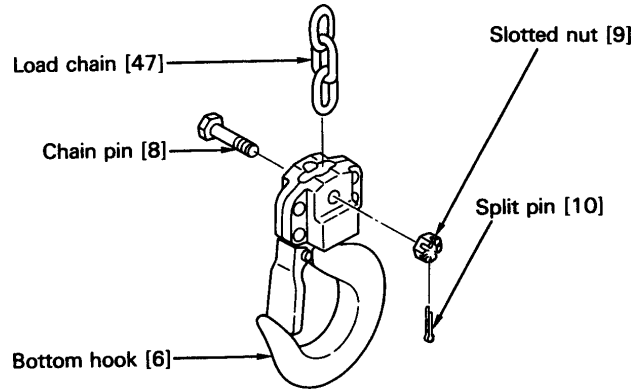

Figure 6-11 Bottom Hook Assembly
- 22) Insert the other end of the load chain [47] to the bottom hook [6] and fix them with the chain pin [8], slotted nut [9] and split pin [10]. See figure 6-11. For Bullard®, Shur-loc®, or Inspection type hooks, refer to Table 6-3 for yoke nut torque specifications.